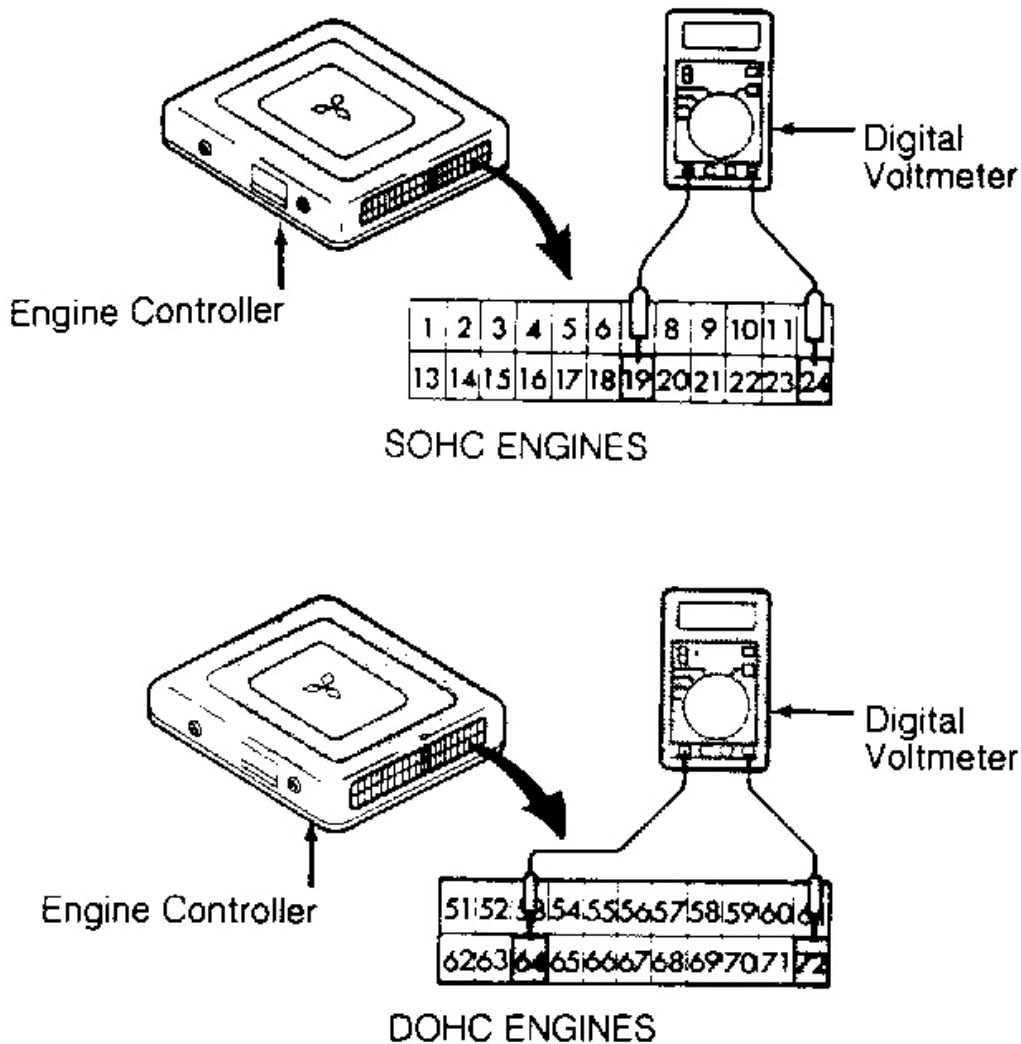

Fig. 18: Connecting DVOM at Engine Controller (Stealth & 3000 GT)
6. Connect digital voltmeter between terminals No. 19 and No. 24 on SOHC engines or terminals No. 64 and No. 72 on DOHC engines. See **Fig. 18**.